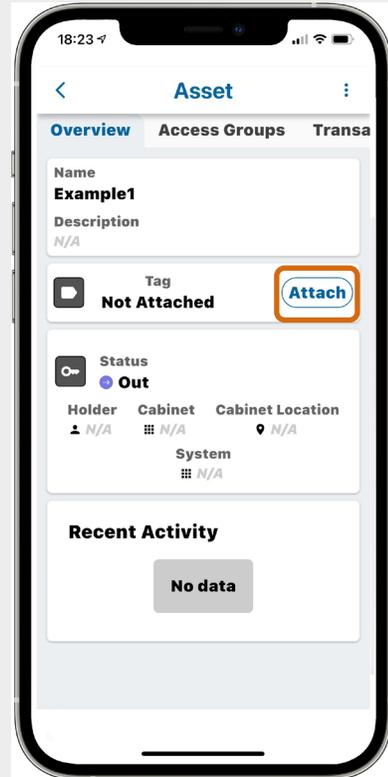

Fig. 82 – Asset details screen with Attach button indicated
3. On the Asset details screen, tap **Attach**, shown in Fig. 82.